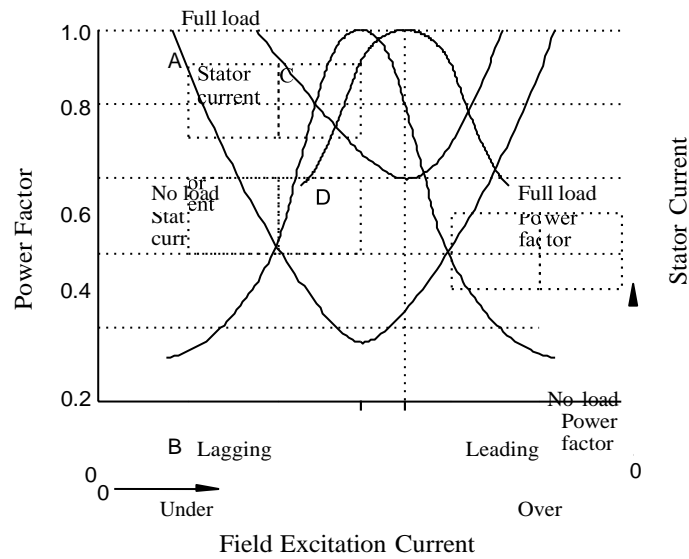

Figure 15
- for small values of excitation current the motor takes a large **lagging** stator current and the power factor is low. This is shown by curves A and B in figure 15, which represents stator current and power factor, respectively, for a synchronous motor on no load.